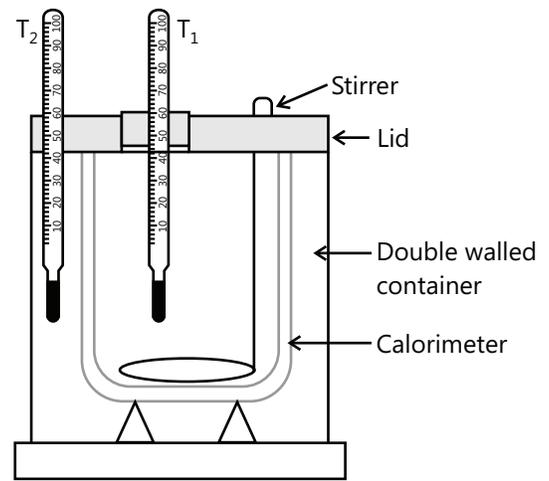

Figure 27.15
**Description of Apparatus:** As shown in the Fig 27.15, the Newton's law of cooling apparatus has a double-walled container, which can be sealed by an insulating lid. Water filled between these double walls ensures that the temperature of the environment surrounding the calorimeter remains constant. Temperature of the liquid and the calorimeter also remains constant for a fairly long period of time, so that temperature measurement is feasible. Temperature of water in calorimeter is feasible. Temperature of water in calorimeter and that of water between the double walls of the container is recorded by two thermometers.